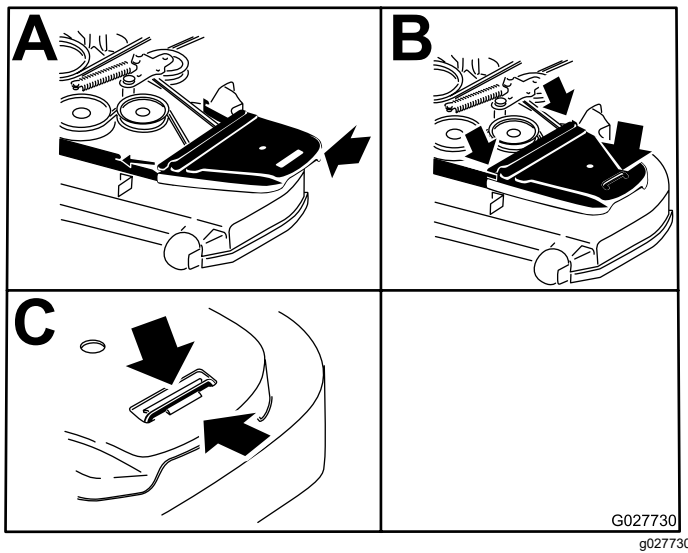

Figure 62
15. Install the belt covers (Figure 62).